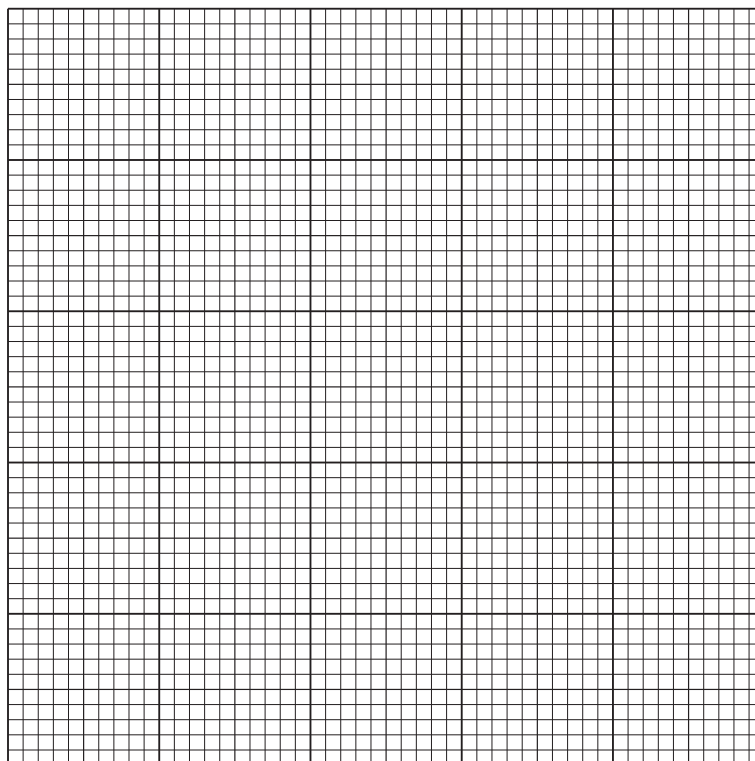

Fig. 1.2
- (i) Plot a graph of the data in Table 1.2 on the grid in Fig. 1.2.
Use your graph in Fig. 1.2 to estimate when the sample was taken.